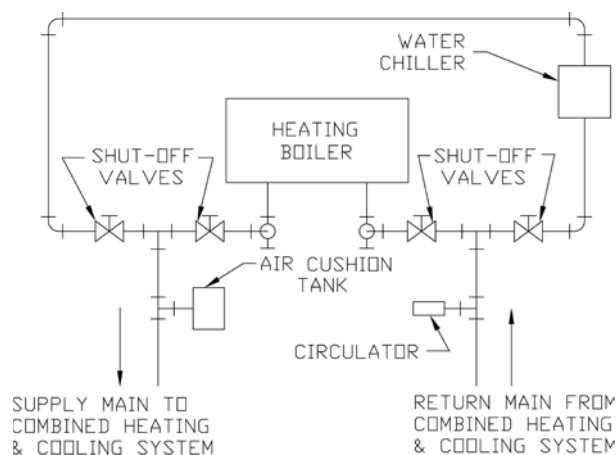

Figure 22: Recommended Piping for Combination Heating & Cooling (Refrigeration) System
1. If boiler is used in connection with refrigeration systems, boiler must be installed with chilled medium piped in parallel with heating boiler using appropriate valves to prevent chilled medium from entering boiler. See Figure 22. Also consult I=B=R Installation and Piping Guides.